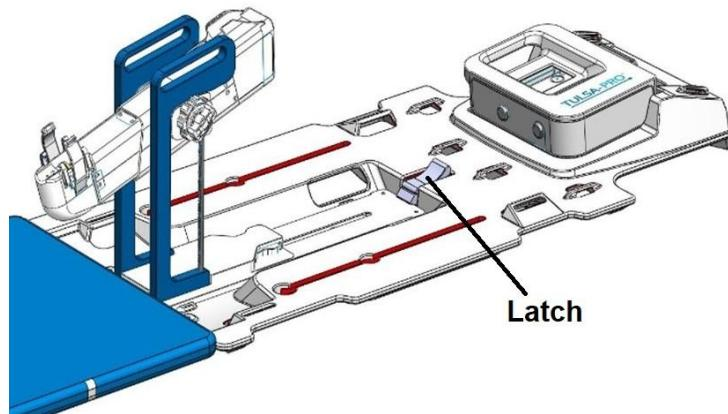

Figure 23: Secure the Positioning System using the latch on the base plate
2. **MRI Technologist:** Ensure that the slot for the PSIB is clear. Place the PS and PSIB in their respective slots on the base plate. Secure the Positioning System (PS) to its slot on the base plate between the patient's legs by snapping it into the latch (Figure 23).